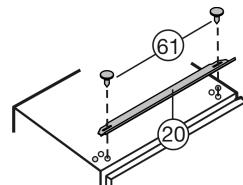

Fig. 11
- ▶ Screw Fig. 11 (61) the equalizer trim Fig. 11 (20) to the appliance through the oblong holes on top.
- Slide the equalizer trim Fig. 11 (20) toward the handle side as far as it will go.